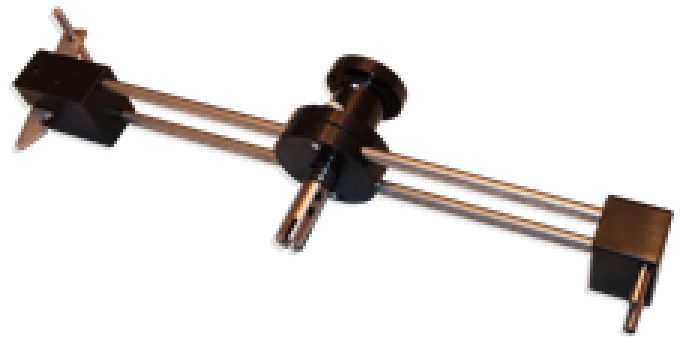

Fig 1.
**INSTALLATION** (Refer to Fig. 1)
- Remove set screw (8). Add Loctite 242 (loctite blue) to the set screw and re-install.
- Align setscrew (8) in drive shaft with flat on air motor driveshaft.
- Slide drive shaft of DBR mount on to air motor shaft and finger tighten setscrew (8).
- Rotate the drive *housing* (7) until the three mounting holes line up with the threaded air motor holes.
- Install three hex head screws (23) and washers (22) and tighten securely.
- Pull clamp lever back (21) align coupling (15) with the prop shaft of the tank and set drive unit to top of tank. Release clamp lever (21) to secure the DBR mount to the tank.